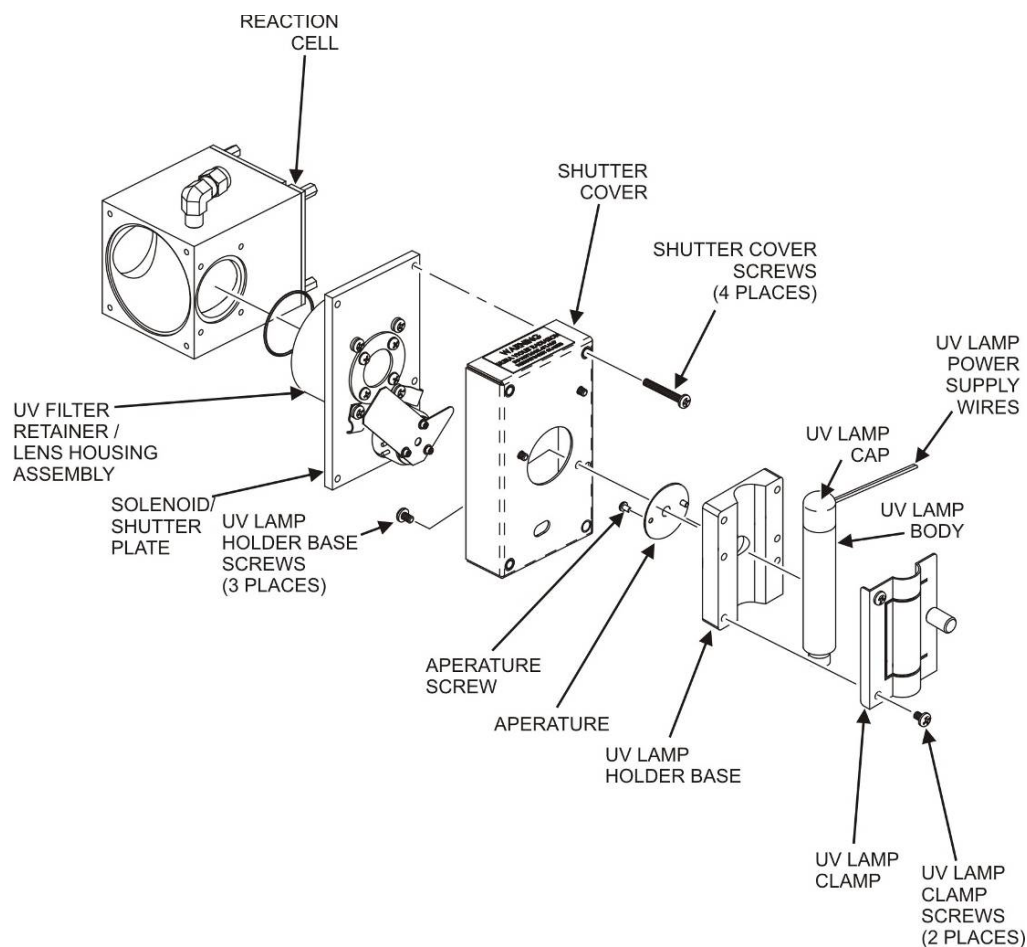
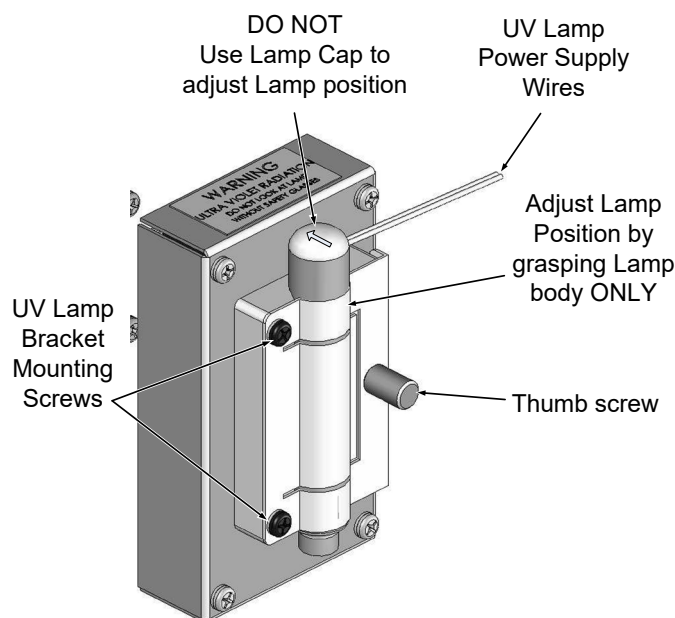

Figure 6-25. Shutter Assembly
Figure 6-26. UV Lamp Adjustment
2. Slightly loosen the large brass thumbscrew located on the shutter housing (refer to Figure 6-26) so that the lamp can be moved.
DO NOT grasp the UV lamp by its cap when changing its position - always grasp the main body of the lamp (refer to Figure 6-25). Inattention to this detail could twist and potentially disconnect the lamp's power supply wires.
4. Loosen, but do not remove the two UV lamp bracket screws and the large brass thumbscrew located (refer to Figure 6-25 and Figure 6-26) on the shutter housing so that the lamp can be moved.
DO NOT grasp the UV lamp by its cap when changing its position - always grasp the main body of the lamp (refer to Figure 6-25) Inattention to this detail could twist and potentially disconnect the lamp's power supply wires.